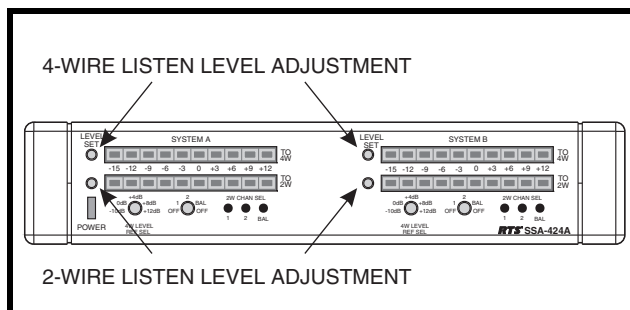

FIGURE 8. Location of level adjust trimmers
2. Use the level adjust trimmers (Figure 8) to fine tune the listen levels.